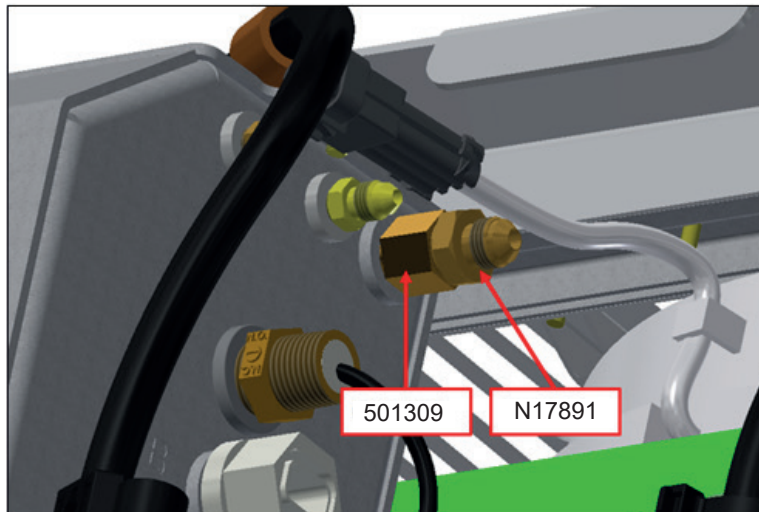

Figure 4 - Installation of Fittings
- 1.8. On the surge tank side on the removed hose, install fittings 501309 (M-NPT-3/8 to F-NPT-3/8) and N17891 (M-NPT-3/8 to M-JIC-06-9/16) (see figure 4).